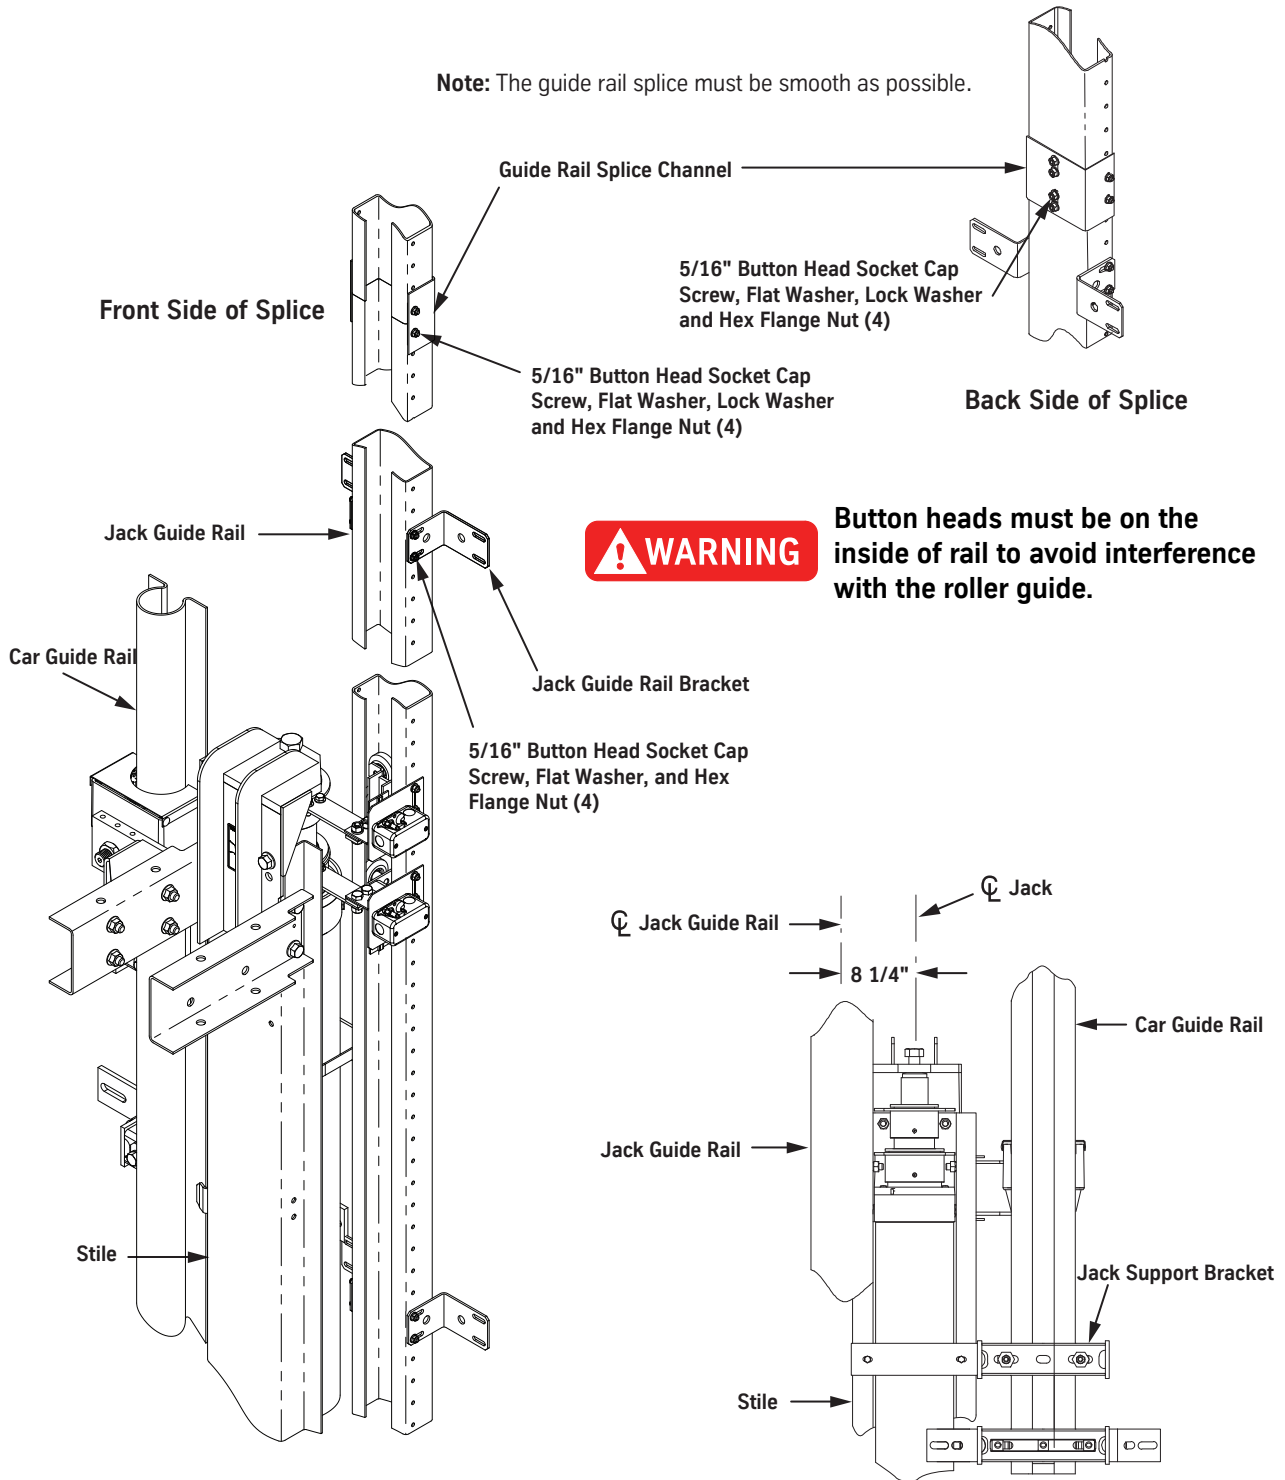

Figure 76 - Stack the Jack Guide Rail Channels
3. Install the splices. See Figure 76 on page 1-105.